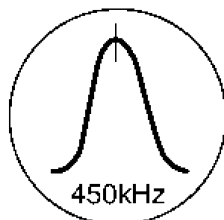

Fig.6
4. Adjust Z2602 so that the output frequency is maximized in Fig. 6.